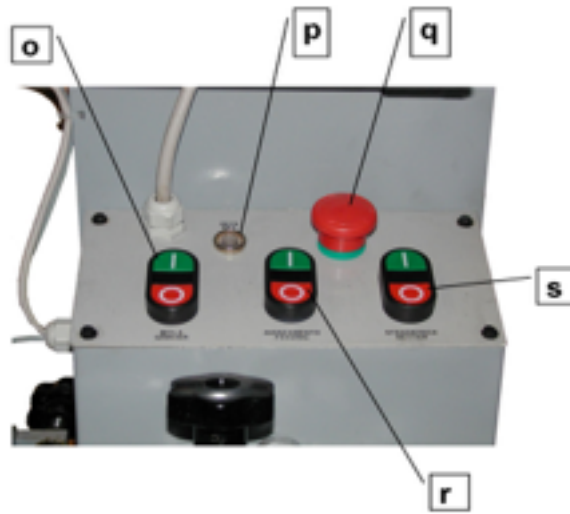

figure 27
- Push buttons **r** and **o** (fig. 27) to start the feed and rotation motors of the grinder.